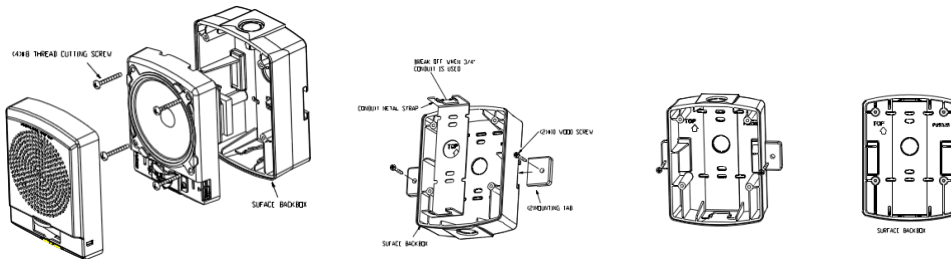

Figure 6: Surface Backbox Mounting
**NOTE:** Speaker-strobe mounting depicted in Figure 6 & 7. For non-strobe speaker surface mounting, use same surface box as depicted in Figure 6.
**NOTE:** Surface backbox (LSPKBB) shown in Figure 6, is compatible with wiremold and conduit. Mounting holes are for single-gang, double-gang, and #10 wood screws for stud mounting. If metal conduit is installed onto top and bottom conduit entrances, then an insulated grounding wire (18 AWG, supplied) must be connected between the top and bottom plate by using thread cutting screws (supplied) to provide electrical continuity per UL 50.